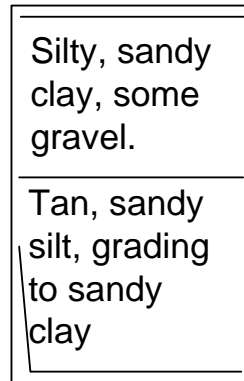

Figure 4.36 -- Soil Transition Lines
- As you can see from the bottom-most line in Figure 4.36, LD4 will bend the lines downward to accommodate any extra-long descriptions that may intrude into the space where the line is supposed to appear. (The left end of the line is always located at the correct depth.)